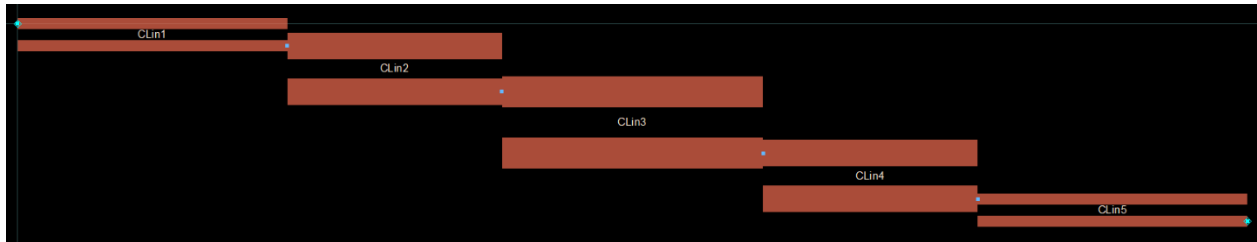

Figure 6. Filter Layout
2. ADS will generate a layout based on schematic. The layout should look like what is shown in Figure 6. The layout view will be added to the view list under the cell name. This can be verified in the ADS main window.